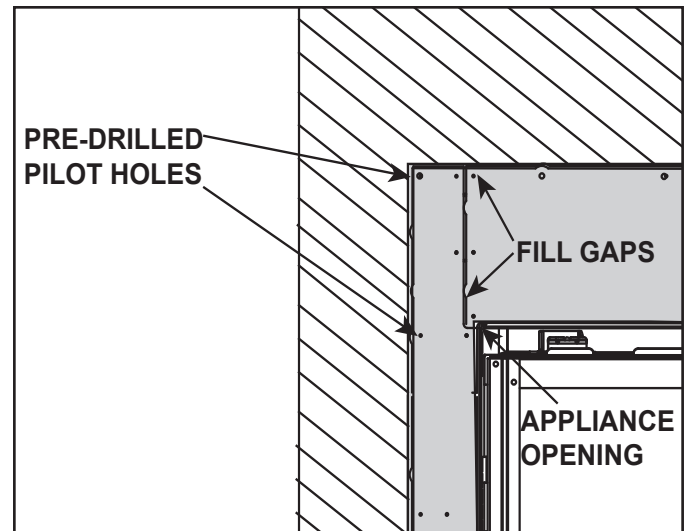
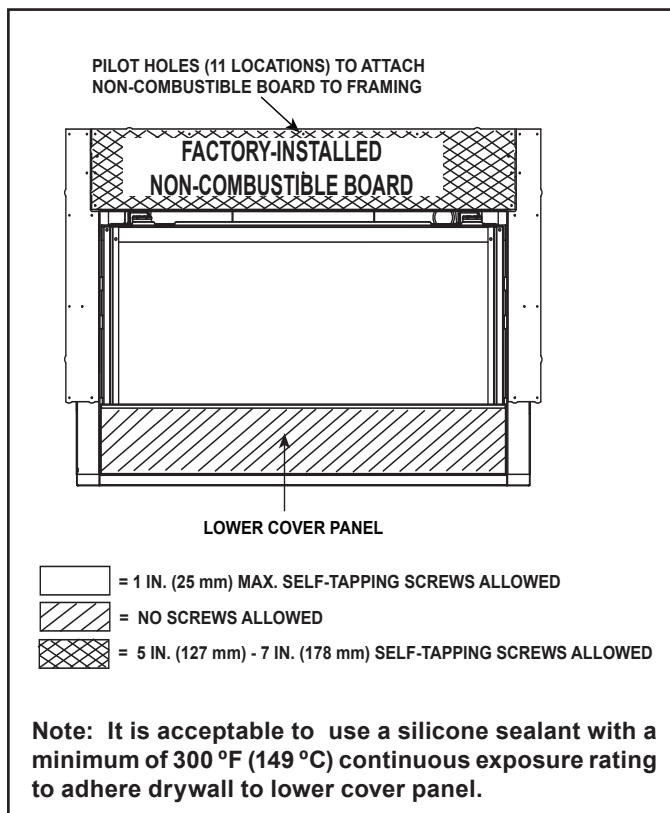

Figure 10.1 Install Non-Combustible Board
Figure 10.2 Finishing Details
The factory-supplied non-combustible board must be used in all installations. It must be directly attached to structural framing adjacent to the appliance. Screw fasteners should be installed in the pilot holes provided in the outer perimeter of the non-combustible board. See Figure 10.1 and Figure 10.2.
2. The appliance ships with the required non-combustible board. The large top piece of non-combustible board is pre-installed at the factory. The narrow left and right non-combustible pieces are shipped within the appliance. Install the non-combustible side pieces with the screws provided in the manual bag assembly. There are pilot holes located on the left and right side columns. Care should be taken not to tighten these screws into the non-combustible board excessively. Set screws flush to the face of the non-combustible board. See Figure 10.2 and Section 6.D.
3. The outer perimeter of the factory-installed non-combustible board has pre-drilled pilot holes. See Figure 10.1. Secure the non-combustible board to adjacent framing with drywall screws that are a minimum of 1-1/4 inch in length. Care should be taken not to tighten these screws into the non-combustible board excessively. Set screws flush to the face of the non-combustible board. See Figure 10.2 and Section 6.D.
4. When installing drywall around the appliance, install a rectangular hole for the fireplace/non-combustible board in a single sheet of drywall. This will minimize the joints that require finishing adjacent to the fireplace opening. Ensure that the 1/8 inch (3 mm) gap is maintained between the factory installed non-combustible board and the surrounding drywall. See Figure 10.1. Secure the drywall to the framing with screws a minimum of one inch (25 mm) in length every six inches (152 mm) across the top of the fireplace and every ten inches (254 mm) on the sides of the fireplace.
1. Fill all gaps and joints between the non-combustible board pieces and the drywall with a general purpose chemically hardening joint compound, Hearth and Home recommends Durabond® 45 Joint Compound manufactured by USG (Sheetrock® brand). Use a drywall knife to firmly press the joint compound into all gaps. See Figure 10.1. Allow these joints to dry.
It is acceptable to pre-drill holes and use self-tapped screws in the factory-installed non-combustible board to attach non-combustible backer board for tile, marble, etc. Refer to Figure 10.2 for acceptable screw location and screw length requirements.
Do not drill or install screws which may penetrate the lower cover panel as this will restrict required access to the glass, battery-back-up, and control module. See Figure 10.2.